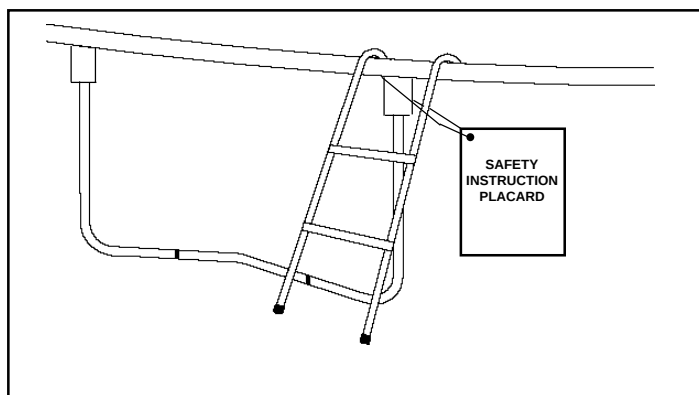

FIGURE 13
Now attach the safety instruction placard using the enclosed tie wrap. Place it at the point where you will normally mount the trampoline. The tie wrap should go around a vertical frame joint and a top rail to keep it from moving laterally (See Figure 13).
**Access ladder (optional part)** - Hook the ladder over a top frame rail/vertical leg extension joint area. This should be at the normal access point. When the trampoline is not in use, remove the ladder and store in a secure location (See Figure 13).
Ahora fije la plaqueta de instrucciones de seguridad usando la envoltura de amarre adjunta. Colóquela en el punto donde usted normalmente montará el trampolín. La envoltura de amarre debe colocarse alrededor de una unión del marco vertical y un riel de tope para evitar que se mueva lateralmente (vea la Fig. 13).